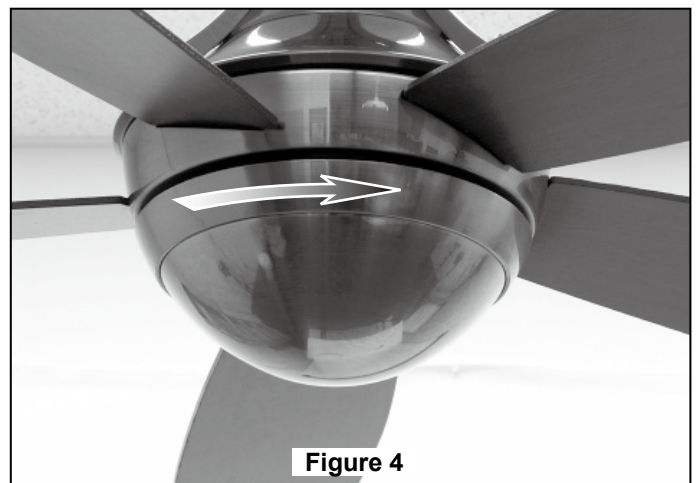

Figure 4
5. Securely attach the Lower Bowl Housing Assembly by twisting onto the Adapter plate. Don't overtighten. (Figure 4)